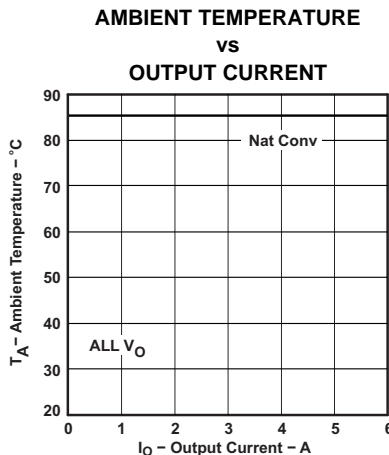

Figure 10.
- (2) The temperature derating curves represent the conditions at which internal components are at or below the manufacturer's maximum operating temperatures. Derating limits apply to modules soldered directly to a 100 mm x 100 mm double-sided PCB with 2 oz. copper. Applies to Figure 10.